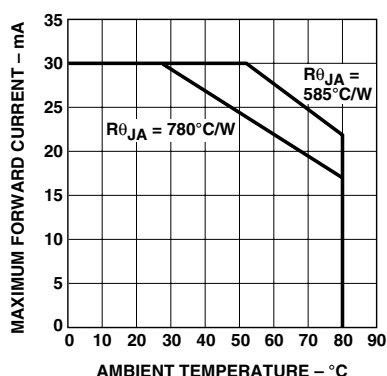

Figure 3. Forward current vs. ambient temperature.
1. Derate linearly as shown in Figure 3.